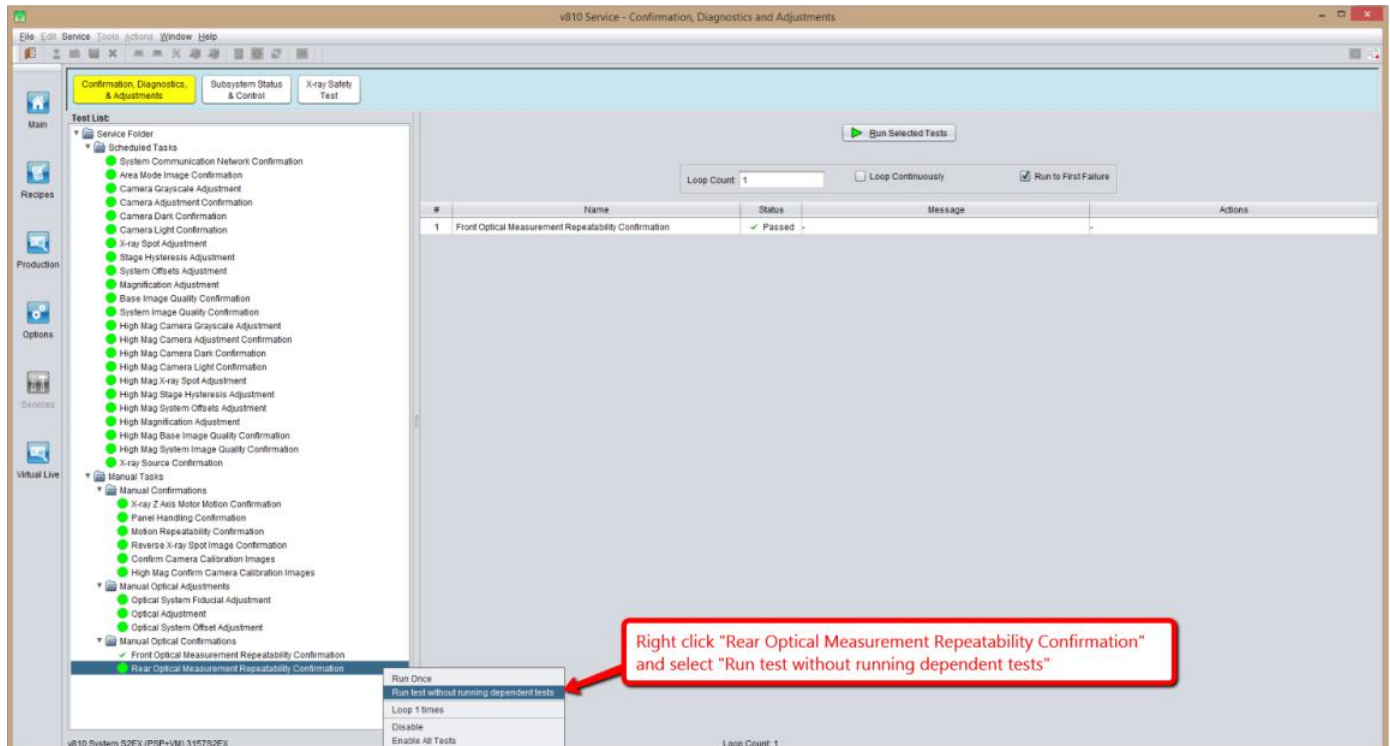

Figure 49 Rear Optical Measurement Repeatability Confirmation
35. At **Confirmation, Diagnostics and Adjustment (CD&A)** , under the **Manual Optical Confirmation**, right click **Rear Optical Measurement Repeatability Confirmation** and select **Run test without dependent tests** as shown in the Figure 49 below.